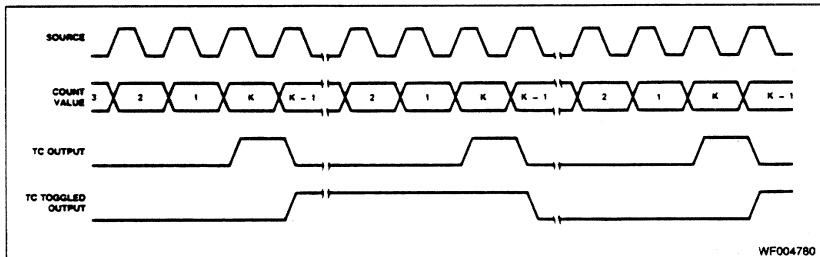

Figure 18. Counter Output Waveforms
Each Counter Logic Group includes a 16-bit Counter Mode (CM) register used to control all of the individual options available with its associated general counter. These options include output configuration, count control, count source and gating control. Figure 18 shows the bit assignments for the Counter Mode registers. This section describes the control options in detail. Note that generally each counter is independently configured and does not depend on information outside its Counter Logic Group. The Counter Mode register should be loaded only when the counter is Disarmed. Attempts to load the Counter Mode register when the counter is armed may result in erratic counter operation.
One output form available is called Terminal Count (TC) and represents the period in time that the counter reaches an equivalent value of zero. TC will occur on the next count when the counter is at 0001 for down counting, at 9999 (BCD) for BCD up counting or at FFFF (hex) for binary up counting. Figure 18 shows a Terminal Count pulse and an example context that generated it. The TC width is determined by the period of the counting source. Regardless of any gating input or whether the counter is Armed or Disarmed, the terminal count will go active for only one clock cycle. Figure 18 assumes active-high source polarity, counter armed, counter decrementing and an external reload value of K.